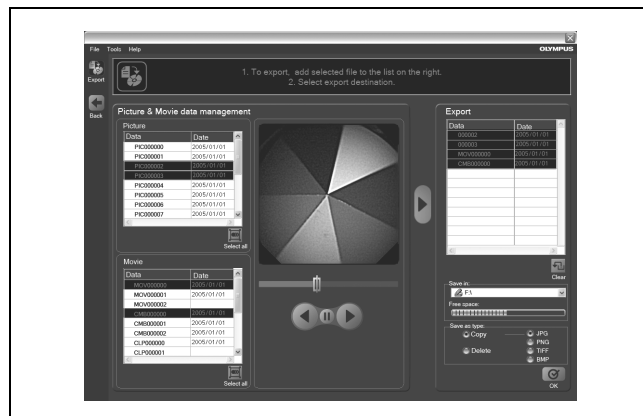

Figure 6.115
2. Use the drive selection box to select the destination drive for the export (see Figure 6.115). The amount of available disk space on the selected drive is displayed.